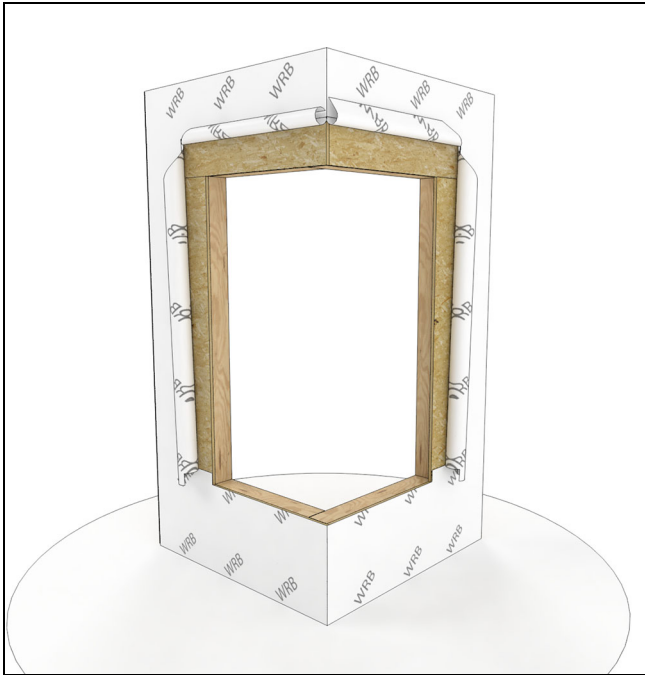

Figure 9
10. Tack the side jamb air barrier away from the opening temporarily. See Figure 9.